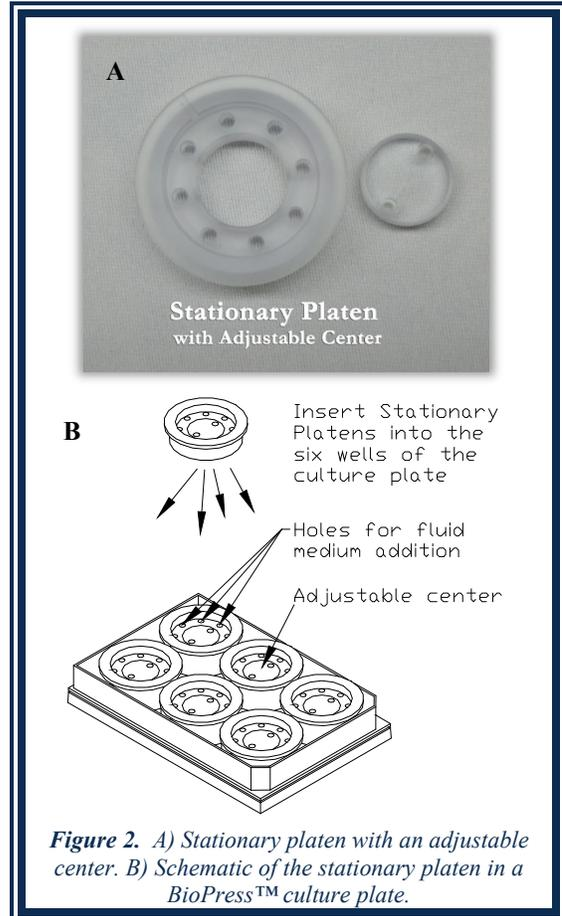

Figure 2. A) Stationary platen with an adjustable center. B) Schematic of the stationary platen in a BioPress™ culture plate.
2. Prepare all stationary platens by adjusting the center screw (Fig. 2) such that the screw bottom (part that touches the sample) is exactly flush with the bottom of the platen body. Use a pair of sterile forceps and the two holes at the adjustable center of the platen to turn the center screw.
3. Place a stationary platen into each well of the compression plate (Fig.2). Calculate the number of revolutions required to bring the bottom of the center screw to the point where it just touches the top of the sample by using the following equations: